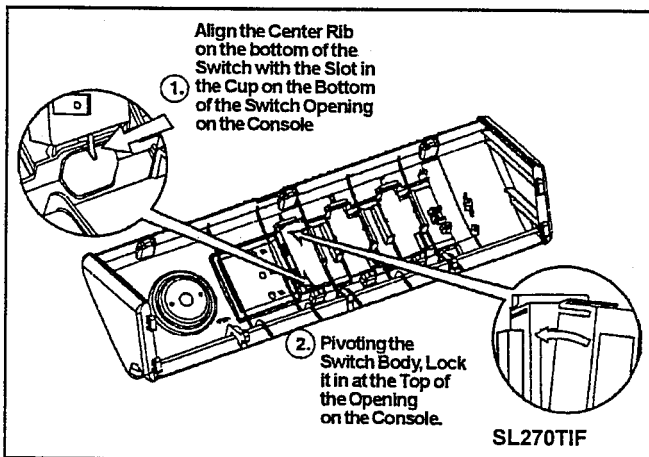

Figure 4-5
1. Depress the tab at the top of the switch with a screwdriver to disengage the tab from the console. Pivot the switch away from the console to remove (*Figure 4-5*).